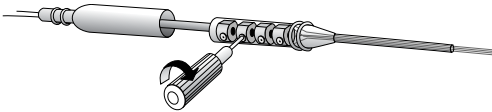

Figure 15. Tighten setscrews.
4. Tighten each of the four setscrews by turning them clockwise with the torque wrench provided before stimulation can be attempted (Figure 15). Tighten the setscrews only until the torque wrench clicks.